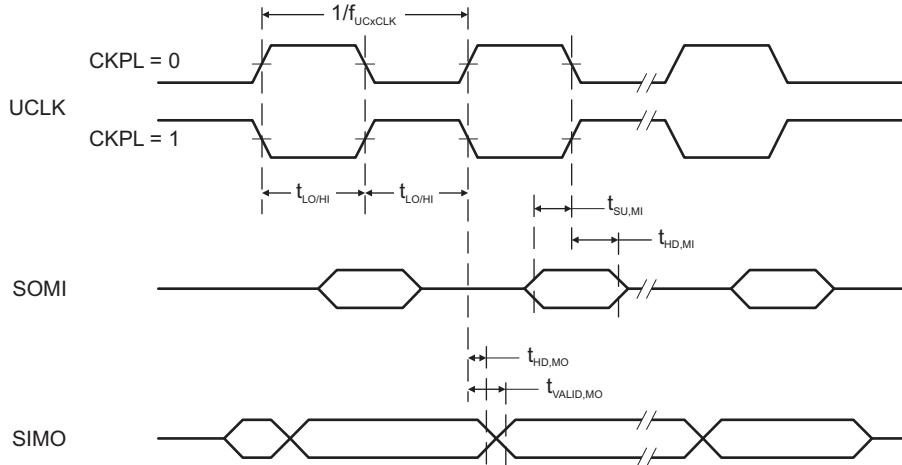
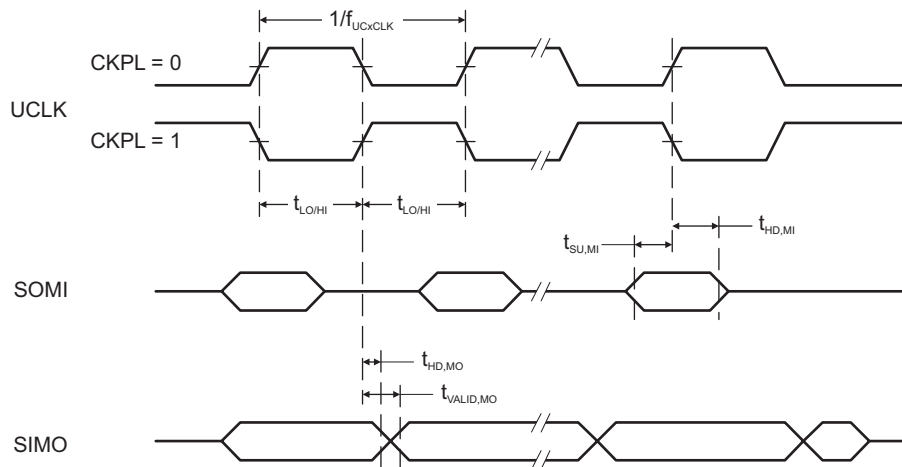

Figure 5-11. SPI Master Mode, CKPH = 0
Figure 5-12. SPI Master Mode, CKPH = 1
(see Figure 5-11 and Figure 5-12)
(2) Specifies the time to drive the next valid data to the SIMO output after the output changing UCLK clock edge. See the timing diagrams in Figure 5-11 and Figure 5-12.
(3) Specifies how long data on the SIMO output is valid after the output changing UCLK clock edge. Negative values indicate that the data on the SIMO output can become invalid before the output changing clock edge observed on UCLK. See the timing diagrams in Figure 5-11 and Figure 5-12.
- (2) Specifies the time to drive the next valid data to the SOMI output after the output changing UCLK clock edge. See the timing diagrams in Figure 5-11 and Figure 5-12.
- (3) Specifies how long data on the SOMI output is valid after the output changing UCLK clock edge. See the timing diagrams in Figure 5-11 and Figure 5-12.